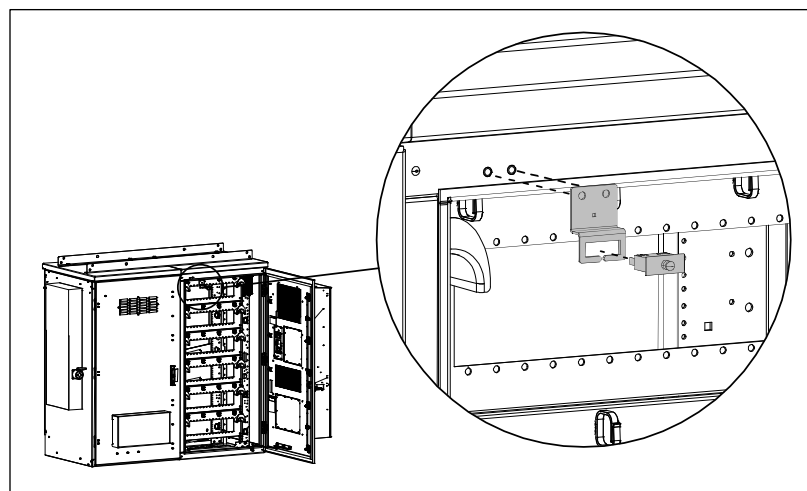

Figure 7 Remove Mounting Plate from MC-1
1. Open the front door, verify the breaker for the door lights is off, and remove the intrusion alarm and light wiring from the door intrusion switch by pulling the connectors. Remove the switch from the existing mounting plate (Figure 7). Set the switch aside for re-installation.